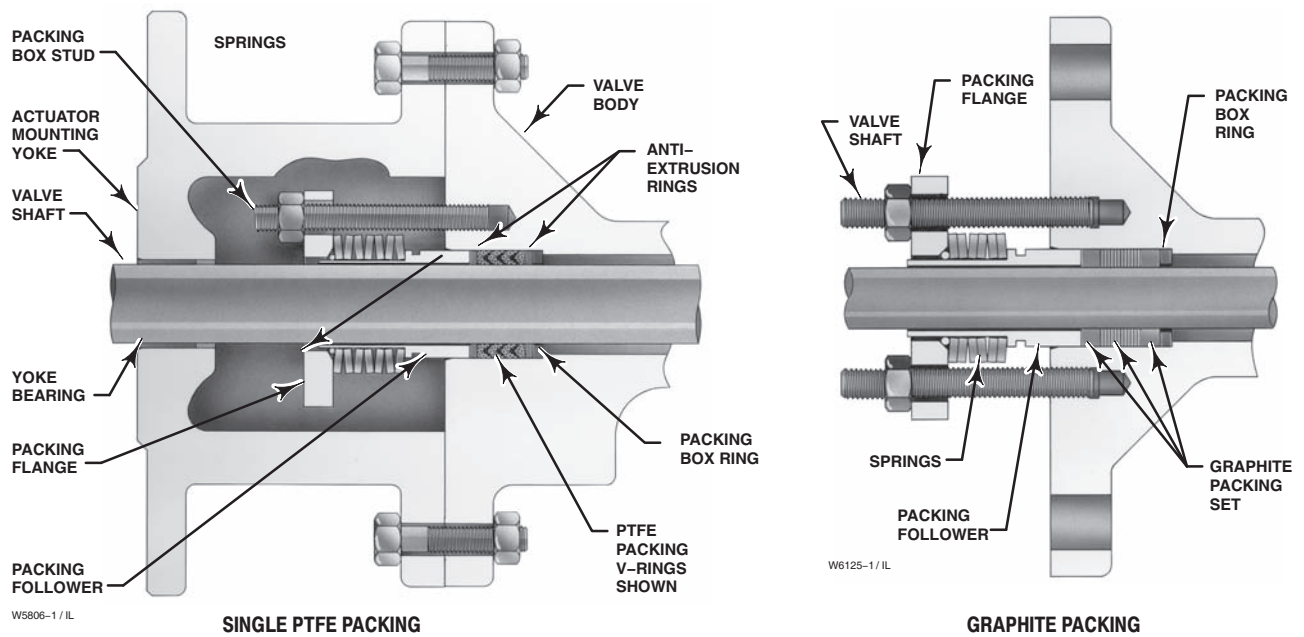

Figure 4. Typical ENVIRO-SEAL Packing Arrangements for Rotary Valves
■ Restricted trim (retainer and seat ring) for low-flow applications, ■ sealed bearing constructions, ■ Line flange bolts (for flangeless valves), ■ Purged bearings; ■ ENVIRO-SEAL™ packing system; see figure 4 and bulletin 59.3:041, ENVIRO-SEAL Packing Systems for Rotary Valves (D101638X012) for more information